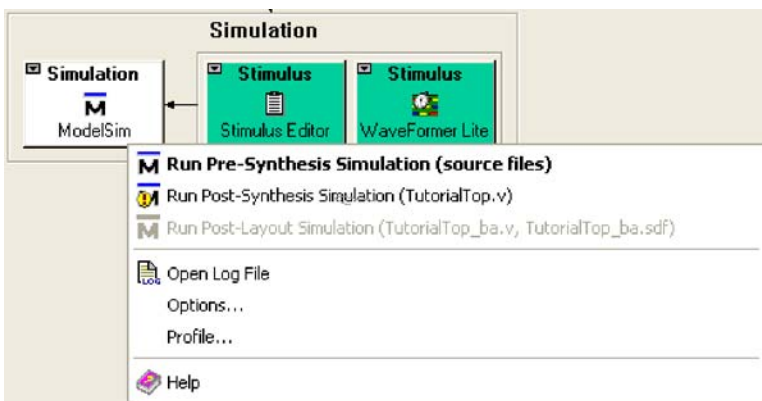

Figure 5-29. Simulation Context Menu
4. Right-click the **Simulation** icon in the Libero IDE Design Flow window and select **Options**, as shown in Figure 5-29.